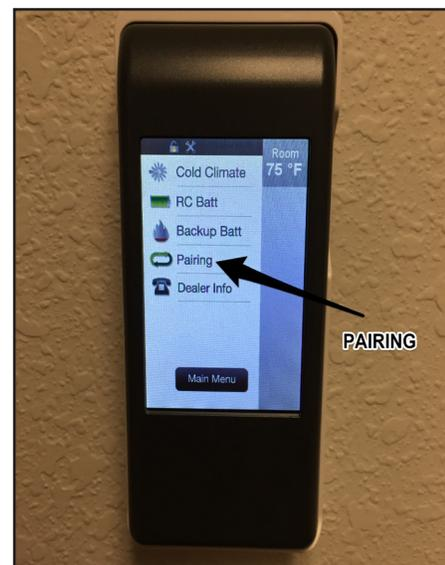

Figure 10 IFT-RC400 Wall Mount / Pairing Screen
While the green LED on the IFT-ECM is blinking, tap anywhere on the gray indicator bar located at the top of the IFT-RC400 screen. Tap on the pairing function as shown in Figure 10. If the IFT-RC400 has been paired successfully to the IFT-ECM, a double audible "beep" will be heard from the IFT-ECM..
4. Touch the screen of the remote. As soon as the main screen appears, tap on the gray indicator bar on the top edge of the screen display. Next, immediately tap the pairing icon as shown in Figure 10. Successful pairing will be indicated by a double beep from the IFT-ECM.
6. As soon as the main screen appears, tap on the gray indicator bar on the top edge of the screen display. Next, immediately tap the pairing icon as shown in Figure 10. Successful pairing will be indicated by a double beep from the IFT-ECM.